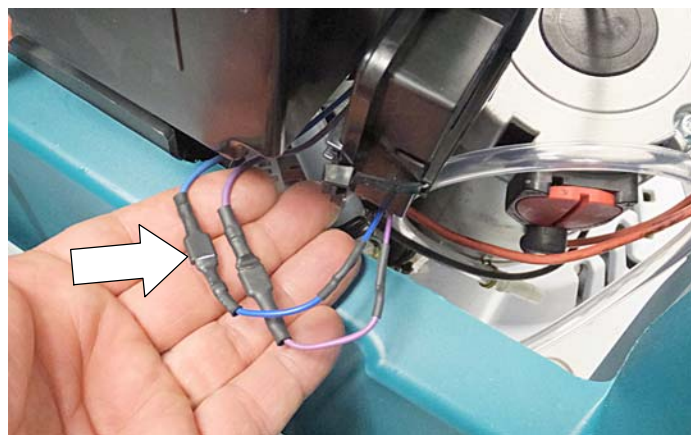

Fig. 8
- Connect the blue and purple wires to the water conditioning module (Figure 8).